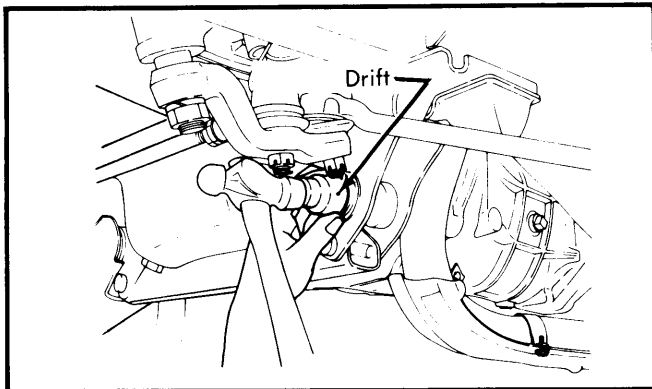

Fig. 5 Removing Bushings from Lower Control Arm
5) Remove lower ball joint by removing retaining nuts and bolts. Using suitable drift (KV40102000), drive out lower control arm bushings. See Fig. 5. Remove bolt attaching torque arm to lower control arm and remove torque arm.